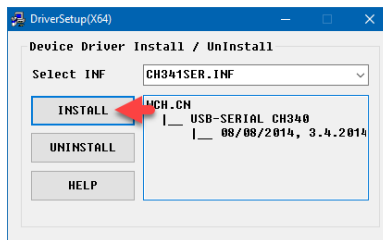

Figure 1.5. NodeMCU V3 USB driver installation
- Run the driver installer file: **CH341SER.EXE**, and install the driver as shown in Figure 1.5.